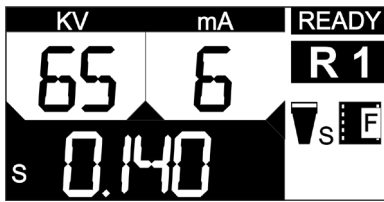

Figure 19. Home Screen
3. Immediately following a successful self test, the console displays a home screen as shown by Figure 19 (page 30).
Bring the console back to home screen as shown in figure 19. Here the user can modify the mA, and S value. The defaults (kV, Cone, and Preset mode) can be set during Configuration time (See Section 5.3).